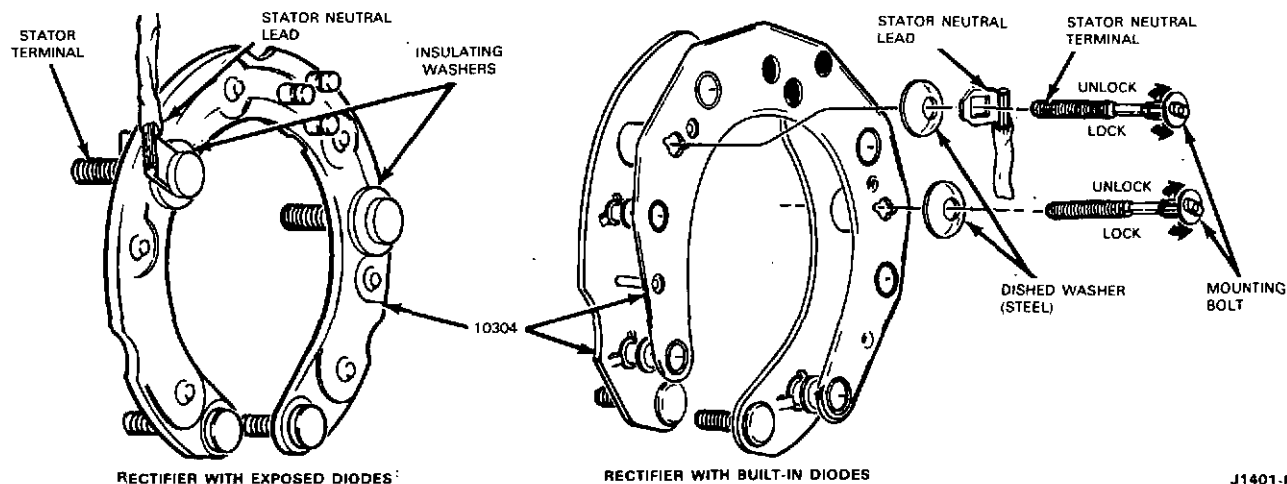
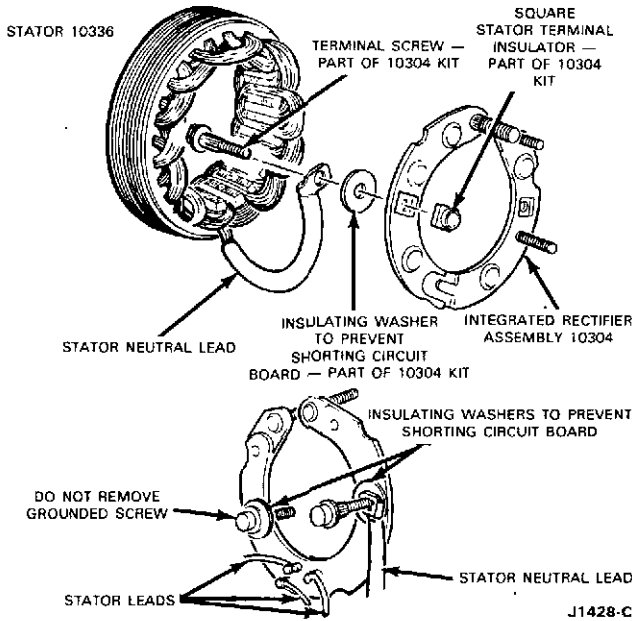

FIG. 16 Rectifier Assembly
FIG. 17 Stator Terminal Installation — Integral Rectifier Circuit Board
8. Original production alternators will have one of three types of rectifier assembly circuit boards (Fig. 16); one has the circuit board spaced away from the diode plates with the diodes exposed. Another type is a single circuit board with built-in diodes. The third type circuit board has built-in diodes with an additional booster diode plate containing two diodes. This circuit board is used only in the 61-ampere alternator.
If the alternator rectifier has an exposed board, remove the screws from the rectifier by rotating the bolt heads 1/4 turn clockwise to unlock them and then remove the screws (Fig. 16). Push the stator terminal straight out on a rectifier with the diodes built into the circuit board (Fig. 16). Avoid turning the screw while removing, to make certain that the straight knurl will engage the insulators when installing. Do not remove the grounded screw (Fig. 17).
10. For a rectifier with the diodes exposed, insert the special screws through the wire lug, dished washers and circuit board (Fig. 16). Turn them 1/4 turn counterclockwise to lock them. For single circuit boards with built-in diodes, insert the screws straight through the wire lug, insulating washer and rectifier into the insulator. (Fig. 16).
**The dished washers are to be used only on the circuit board with exposed diodes (Fig. 16).** If they are used on the single circuit board, a short circuit will occur. A flat insulating washer is to be used between the stator terminal and the board, when a single circuit board is used (Fig. 17).